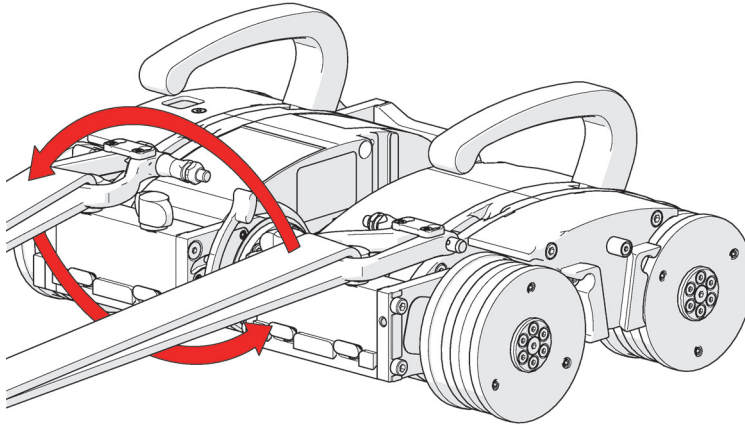

Figure 1-7 Reversing the shackle orientation for low-profile scanning
- ◆ Reverse the lifting sling and shackles so the shackles are free to lay down flat, allowing for low-profile sling setup (see Figure 1-7 on page 36).